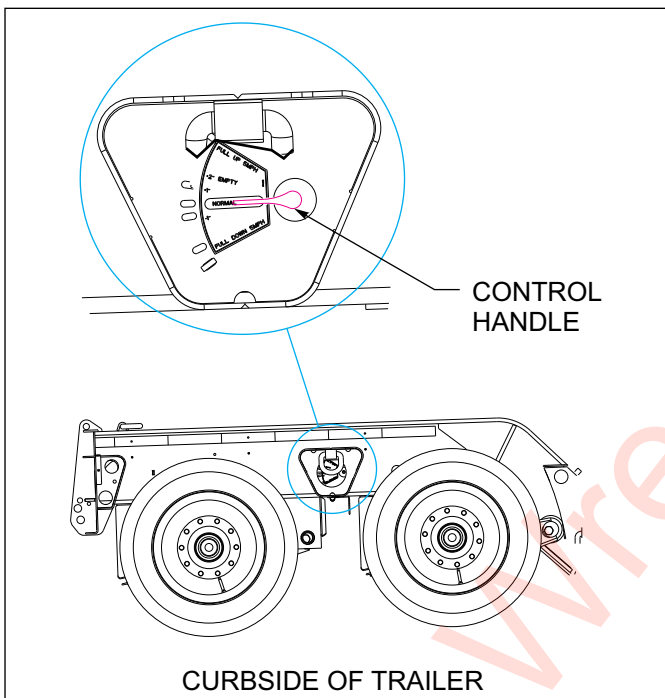

Figure 3-9: Air Raise/Lower Decal Location (835E Construction)
2. Turn switch for flip axle air bags to the “OFF” position. This will allow flip axle to settle down for easy removal of flip axle lower retaining pins (See Figure 3-9.)
3. Check that switch for flip axle air bags is in “OFF” position. This will allow flip axle to settle down for easy installation of flip axle lower retaining pins (See Figure 3-9.)